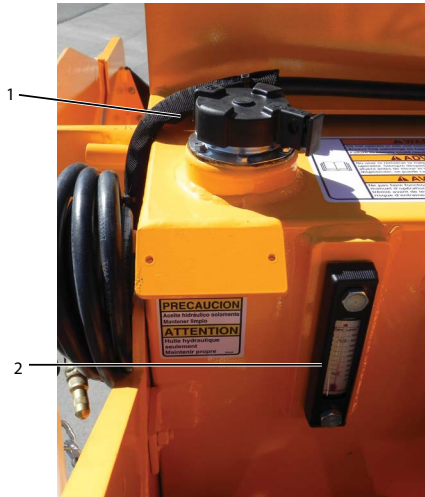

Figure 5-9. Hydraulic Oil Filler Cap and Sight Gauge
3. If level is low, remove hydraulic oil filler cap (Figure 5-9) to add hydraulic oil to the tank.
1. Unscrew hydraulic oil filler cap (Figure 5-9, 1).
2. Remove the hydraulic oil level plug (Figure 5-9, 2) located below the hydraulic oil filler cap.
1. Stop the engine. Allow the hydraulic oil to cool until it is at a warm temperature. Slowly loosen and remove the hydraulic oil reservoir filler cap (Figure 5-9, 1). Put a clean, lint-free cloth over the reservoir fill tube opening and secure in place with tape.
- Install the hydraulic oil filler cap (**Figure 5-9, 1**) onto the reservoir filler neck and tighten securely.